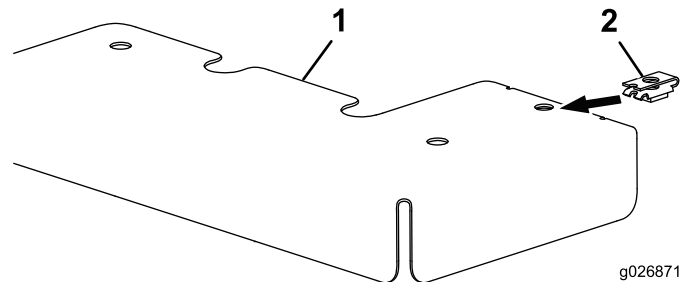

Figure 1
1. Install the retainer nut to the pulley shield (Figure 1).